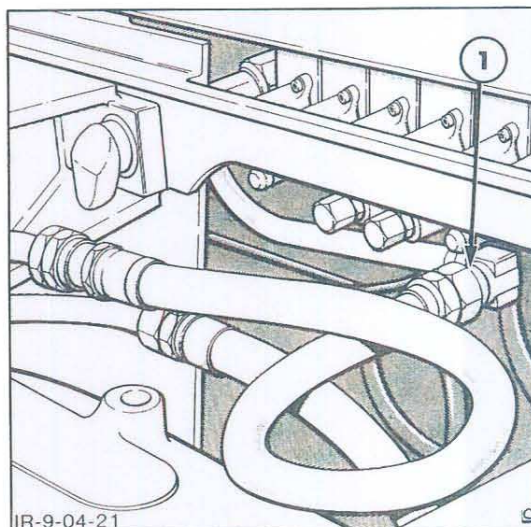

Figure 21
6. Disconnect the inlet hose to the valve assembly, refer to Figure 21.